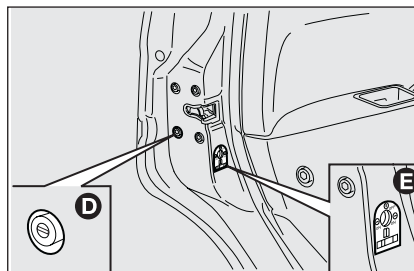

fig. 13
- ☐ cut-in of door lock device **D**-fig. 13 when the electric system is failing (e.g. run-down battery);